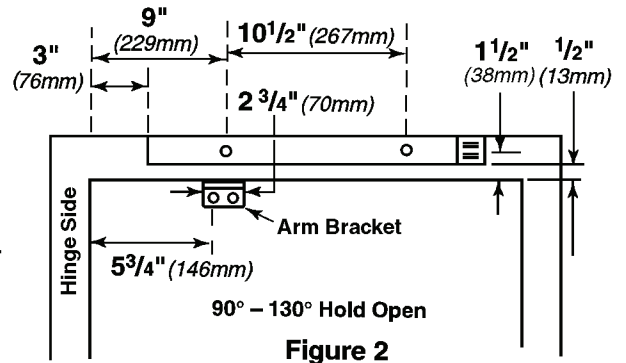
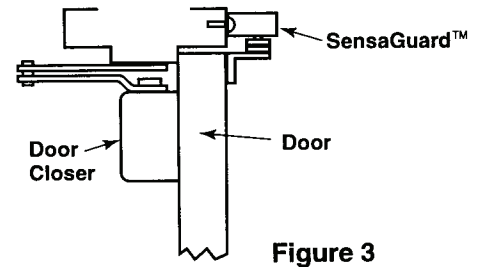

Figure 2
Figure 3
7. Leave a 1/8" gap between the door and the unit (see Fig. 3).
5. Place unit against frame (see Fig. 2 & Fig. 3).
9. Mark the bracket hole locations on the door (see Fig. 2).